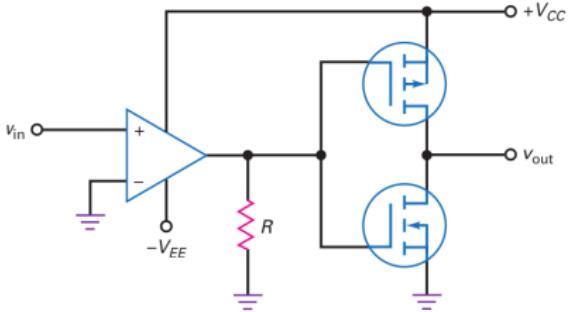

Figure 11: Comparator interfaces with CMOS
- ▶ Fig. 11 shows a zero-crossing detector interfacing with a CMOS inverter.